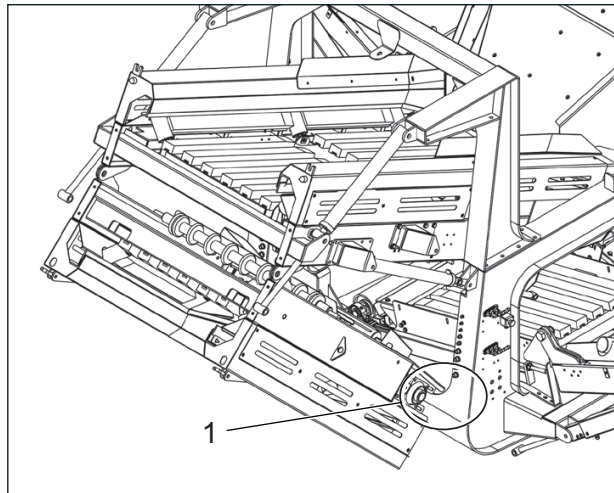

Figure 6.15 - Conveyor Lift Position
3. With the aid of proper lifting equipment lift conveyor at position (1), Ref: Figure 6.15. Raise until the conveyor is in the working position.